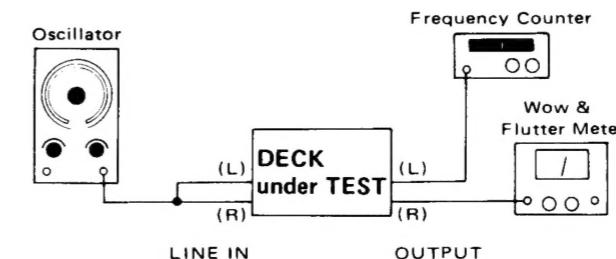

Fig. 4-1
- Connect a frequency counter to the deck as shown in Fig. 4-1.
- Connect a wow-and-flutter meter to the deck as shown in Fig. 4-1.